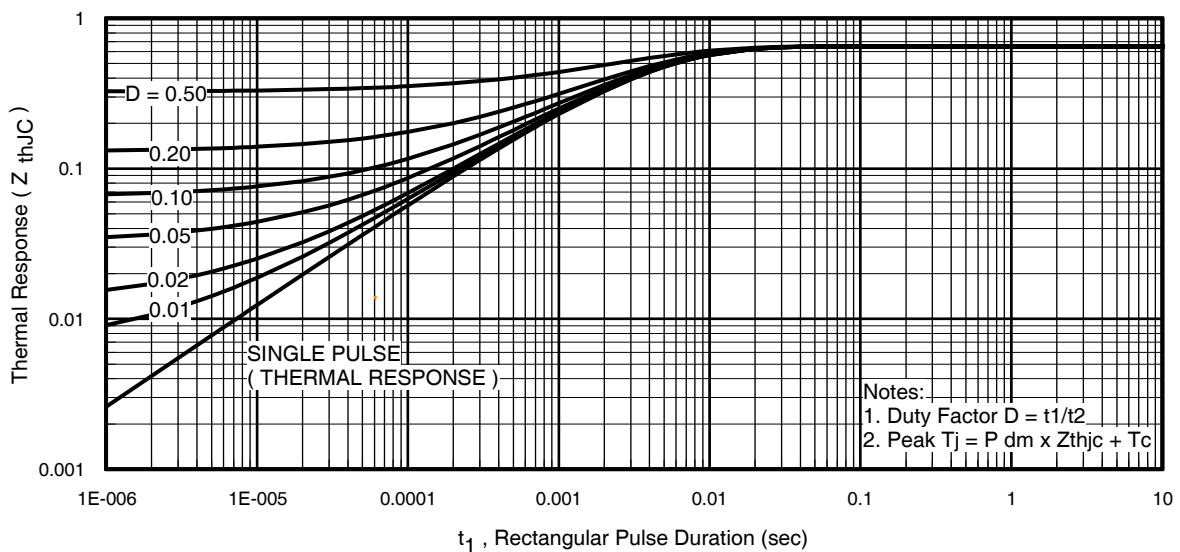

Fig 11. Maximum Effective Transient Thermal Impedance, Junction-to-Case
- ① Repetitive rating; pulse width limited by max. junction temperature. (See fig. 11).
- ② Limited by T_{Jmax}; starting T_J = 25°C, L = 0.10mH
$Z_{thJC}(D, t_{av})$ = Transient thermal resistance, see figure 11)